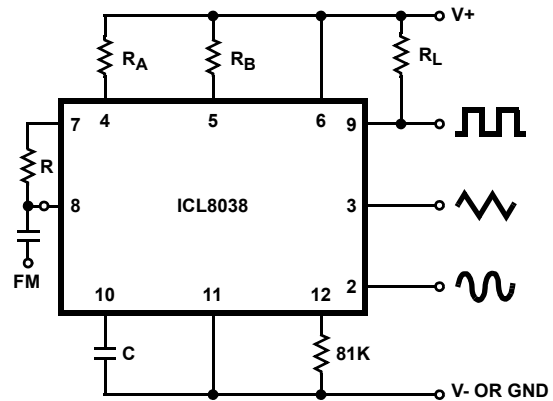

FIGURE 5A. CONNECTIONS FOR FREQUENCY MODULATION
- $V_{SUPPLY} = 20V$; R_A and $R_B = 10k\Omega$, $f \cong 10kHz$ nominal; can be extended 1000 to 1. See Figures 5A and 5B.
The frequency of the waveform generator is a direct function of the DC voltage at Terminal 8 (measured from V+). By altering this voltage, frequency modulation is performed. For small deviations (e.g. ±10%) the modulating signal can be applied directly to pin 8, merely providing DC decoupling with a capacitor as shown in Figure 5A. An external resistor between pins 7 and 8 is not necessary, but it can be used to increase input impedance from about 8kΩ (pins 7 and 8 connected together), to about (R + 8kΩ).